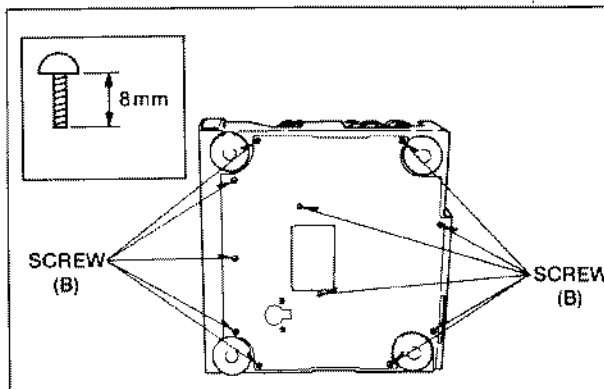

Fig. D3
- (1) Remove Bottom Plate (Refer to Fig. D3).
- (2) By slightly raising right side of unit and locating Brake Gear (A) turn gear counter clockwise slowly until the tray has fully ejected.